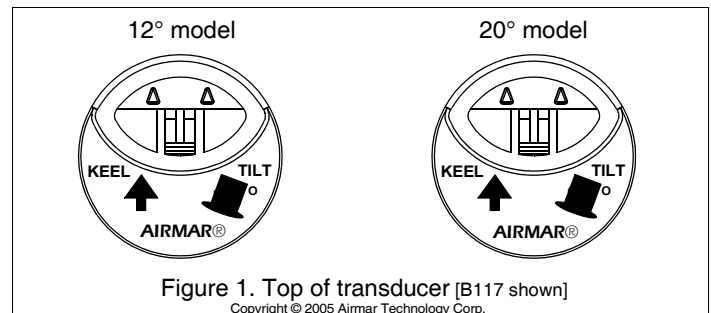
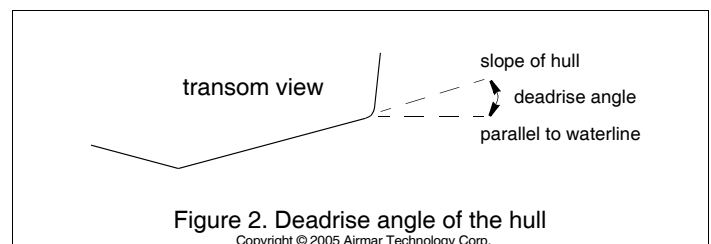

Figure 1. Top of transducer [B117 shown]
Figure 2. Deadrise angle of the hull
Be sure the tilt angle of your transducer model matches the deadrise angle of your hull at the mounting location. The tilt angle is printed on the top of the transducer (see Figure 1). To measure the deadrise angle of your hull at the selected mounting location, use an angle finder or a digital level (see Figure 2).
- 12° and 20° models**—From inside the hull, point the arrow on the top of the transducer (and the cable exit) toward the KEEL or centerline of the boat (see Figure 1). This will align the angle of the element inside the transducer with the deadrise angle of your hull.